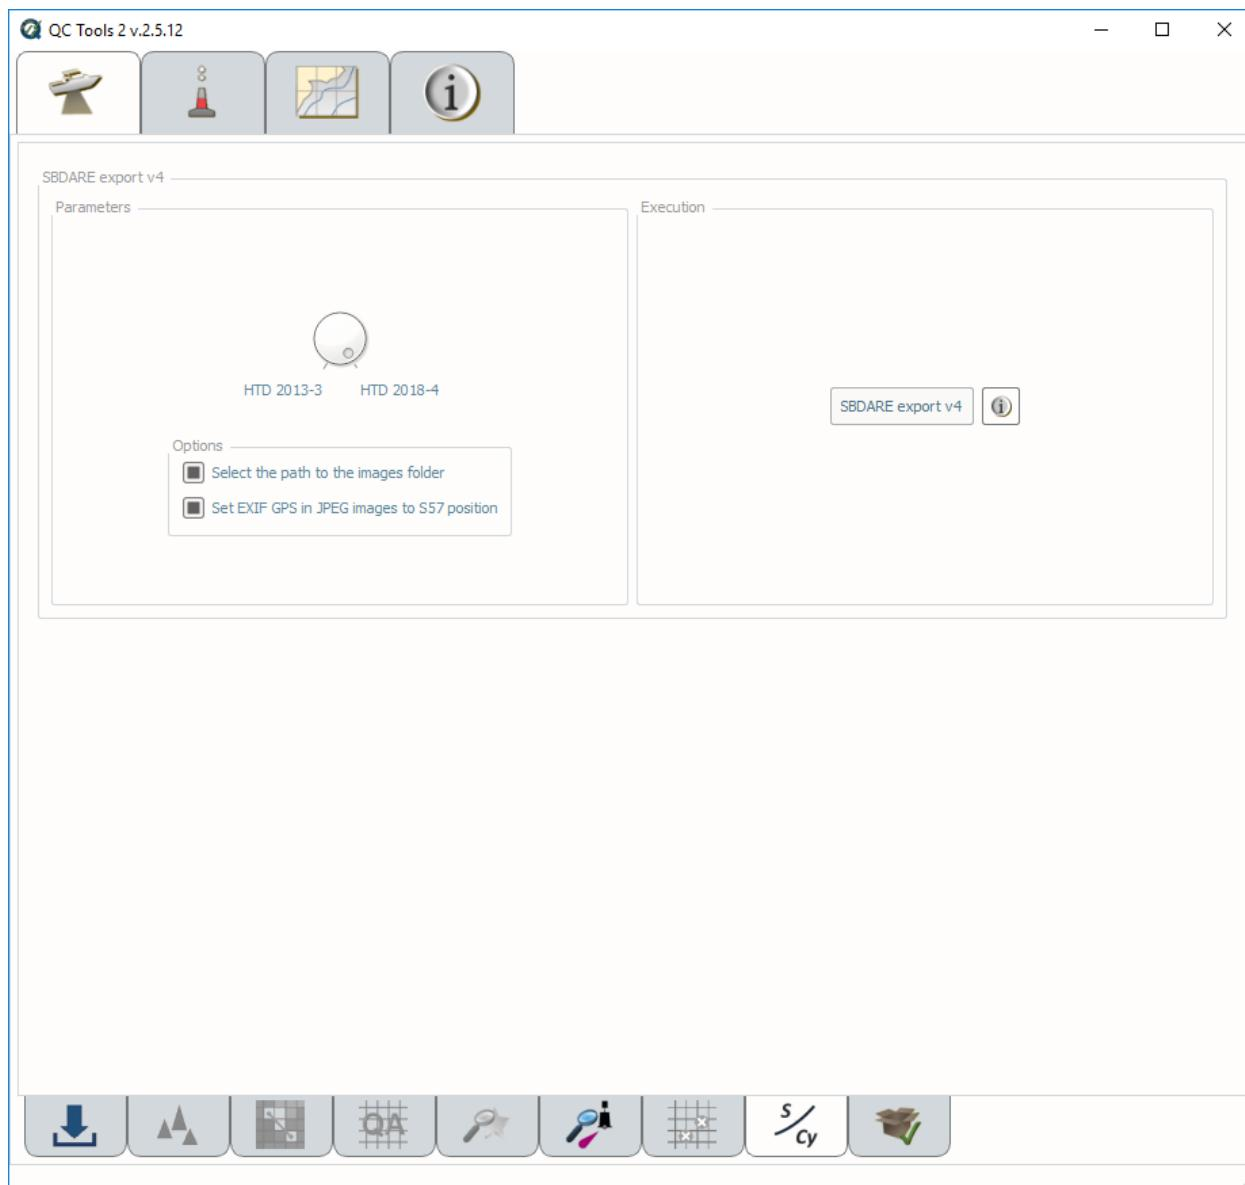

Fig. 2.48: SBDARE exports interface.
- Click **SBDARE export v4** (Fig. 2.48).